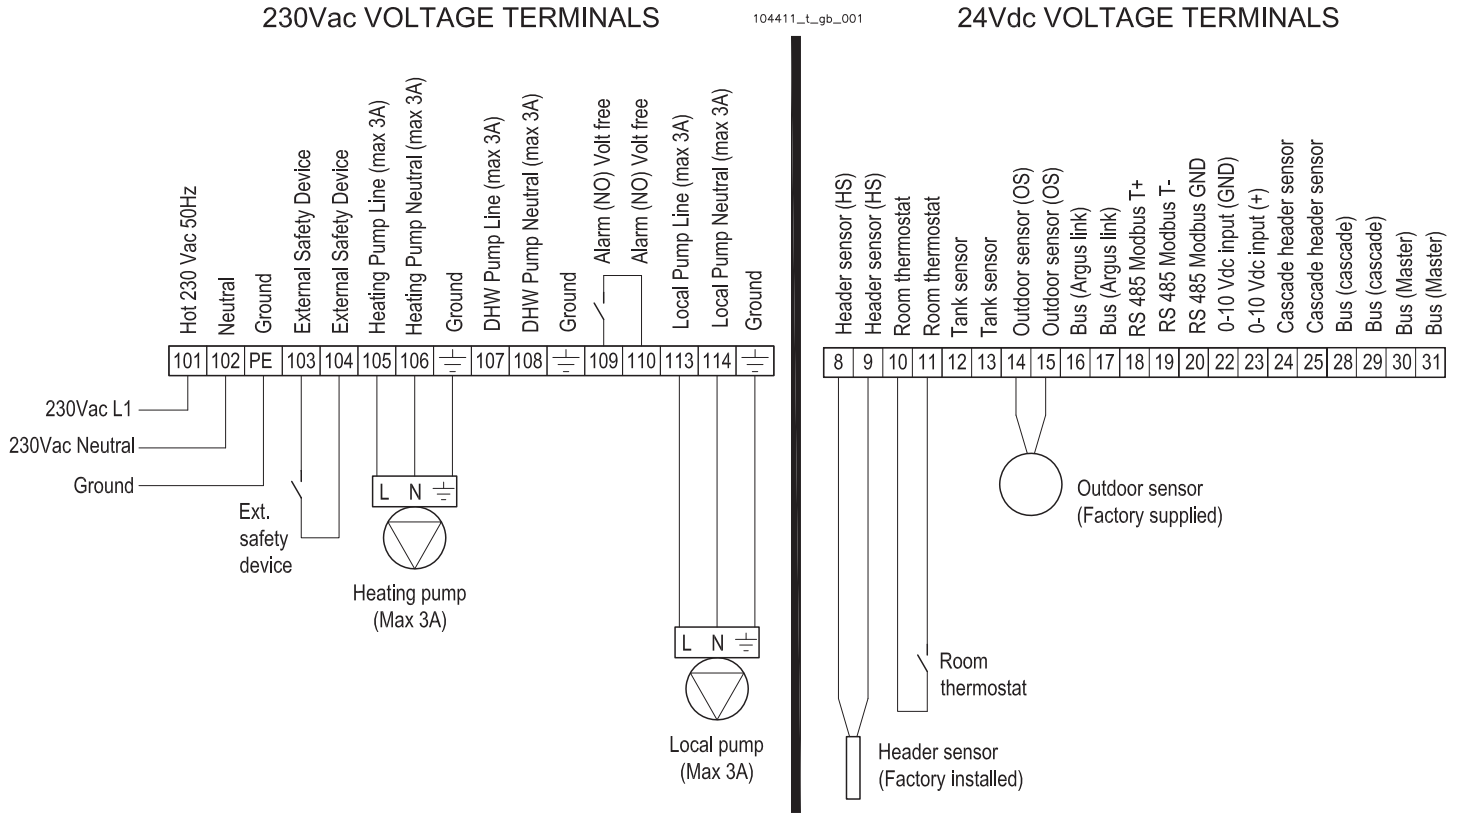

Figure 13-4 - MYDENS boiler electrical connections (Example of system shown in figure 10-1)
Proceed as follows to connect the room thermostat cable (refer to figures 13-4 and 13-5):
- 6.- Connect the two ends of the cable to terminals "10" and "11" (see figures 13-4 and 13-5).
- 2.- Connect the two-pole cable to terminals "14" and "15" in figures 13-4 and 13-5;
Proceed as follows for the electrical connections (refer to figures 13-4 and 13-5):
- 6.- electrically connect the storage tank pump to terminals "107" and "108" of the boiler (see figures 13-4 and 13-5).